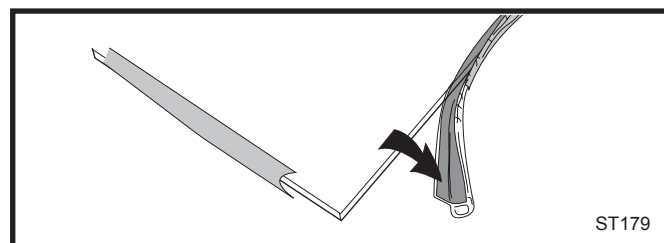

Fig. 69 Wrap the gasket material around the outside edge of the glass.
3. Starting on a long edge, remove about 6" of the protective paper strip and apply the flat adhesive face of the gasket around the outside-facing edge of the panel. Continue around the panel, applying about 6" at a time and being careful to not stretch the material. Do not overlap the gasket ends. (Fig. 69)